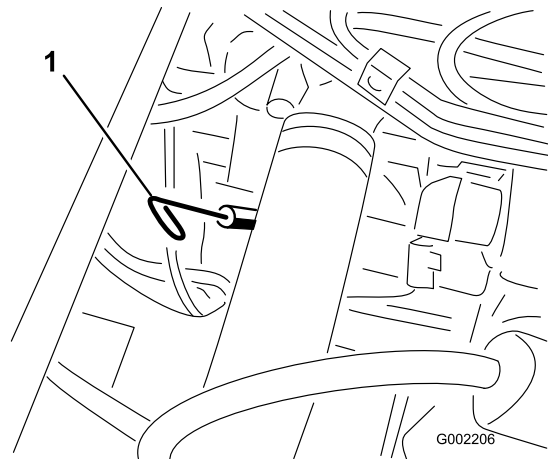

Figure 40
2. Remove the dipstick, located under the passenger seat, and wipe it with a clean rag (Figure 40).
13. Remove the oil filler cap and slowly pour approximately 80% of the specified amount of oil into the engine at the oil filler (Figure 40).